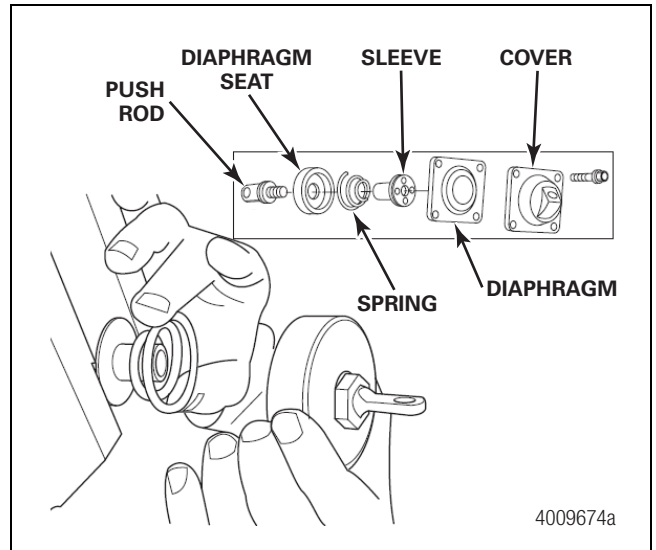

Figure 6.7
6. Remove the diaphragm. Figure 6.7.